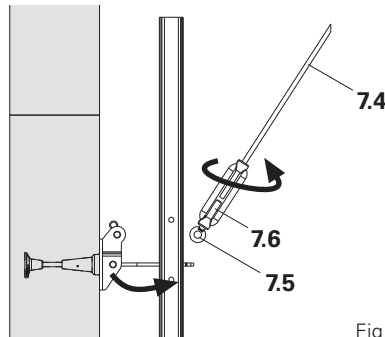

Fig. B1.38
5. Turn Turnbuckle CB Ø 25-M20L/DW 15 (7.6) on the tie rod (7.4) (Fig. B1.38). Roughly adjust length by turning the tie rod. Fine adjustment by turning of the turnbuckle.